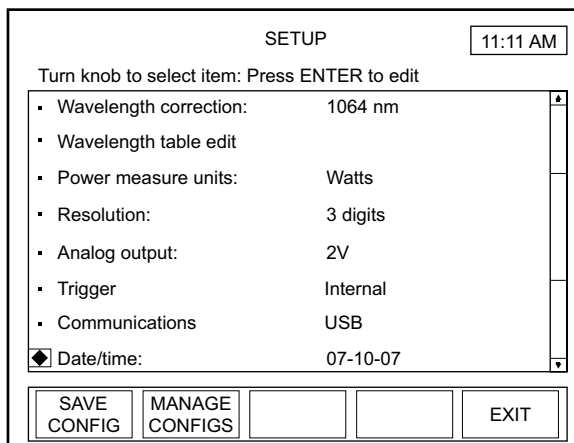

Figure 4-55. SETUP: Date/Time
1. On the main SETUP screen, turn the Selection knob to move the diamond indicator to Date/Time (Figure 4-55).